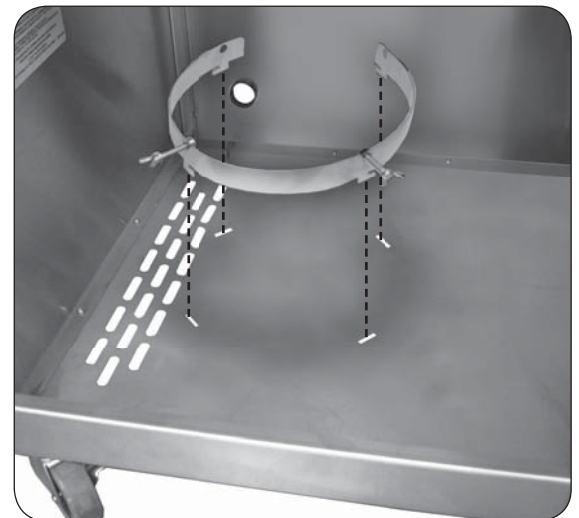

Fig. 5-3 Install tank ring
2. Orient the tank support ring over the cabinet floor and insert the tabs into the cut-outs as shown in Fig. 5-3.